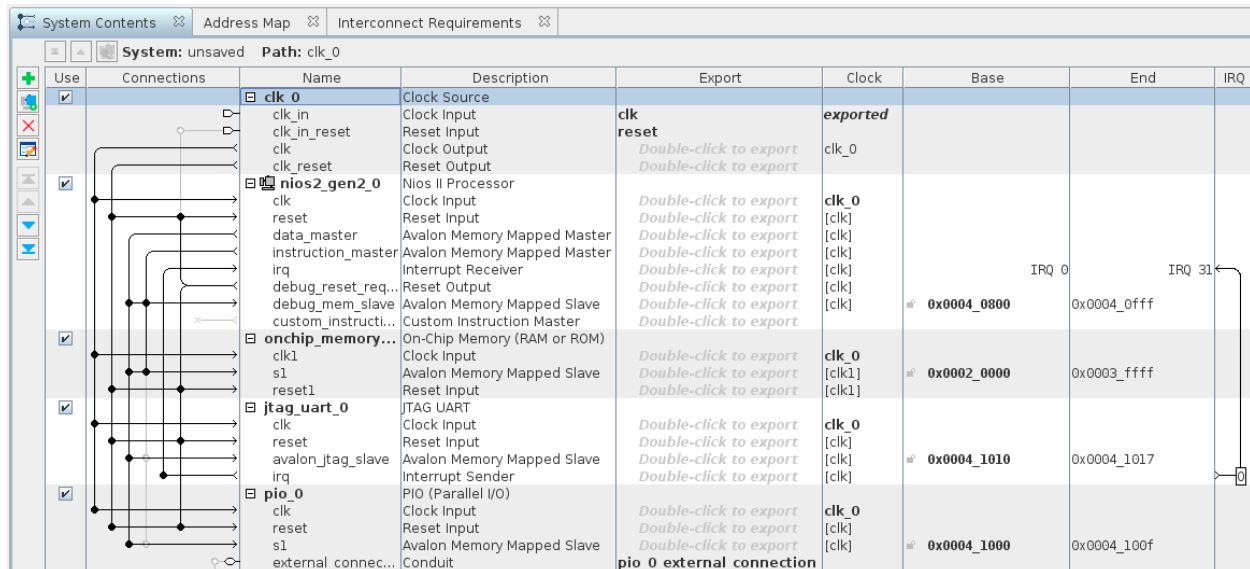

FIGURE 2. QSYS SYSTEM
11. Your system should now look like the one shown in Figure 2 – don't worry if you have different base addresses than in the example.
The macros defined above contain a BASE parameter. This is the base address of the peripheral as defined by Qsys in Figure 2. You can find the base addresses of all peripherals connected to the Nios II processor by including the “system.h” header file in your source code.